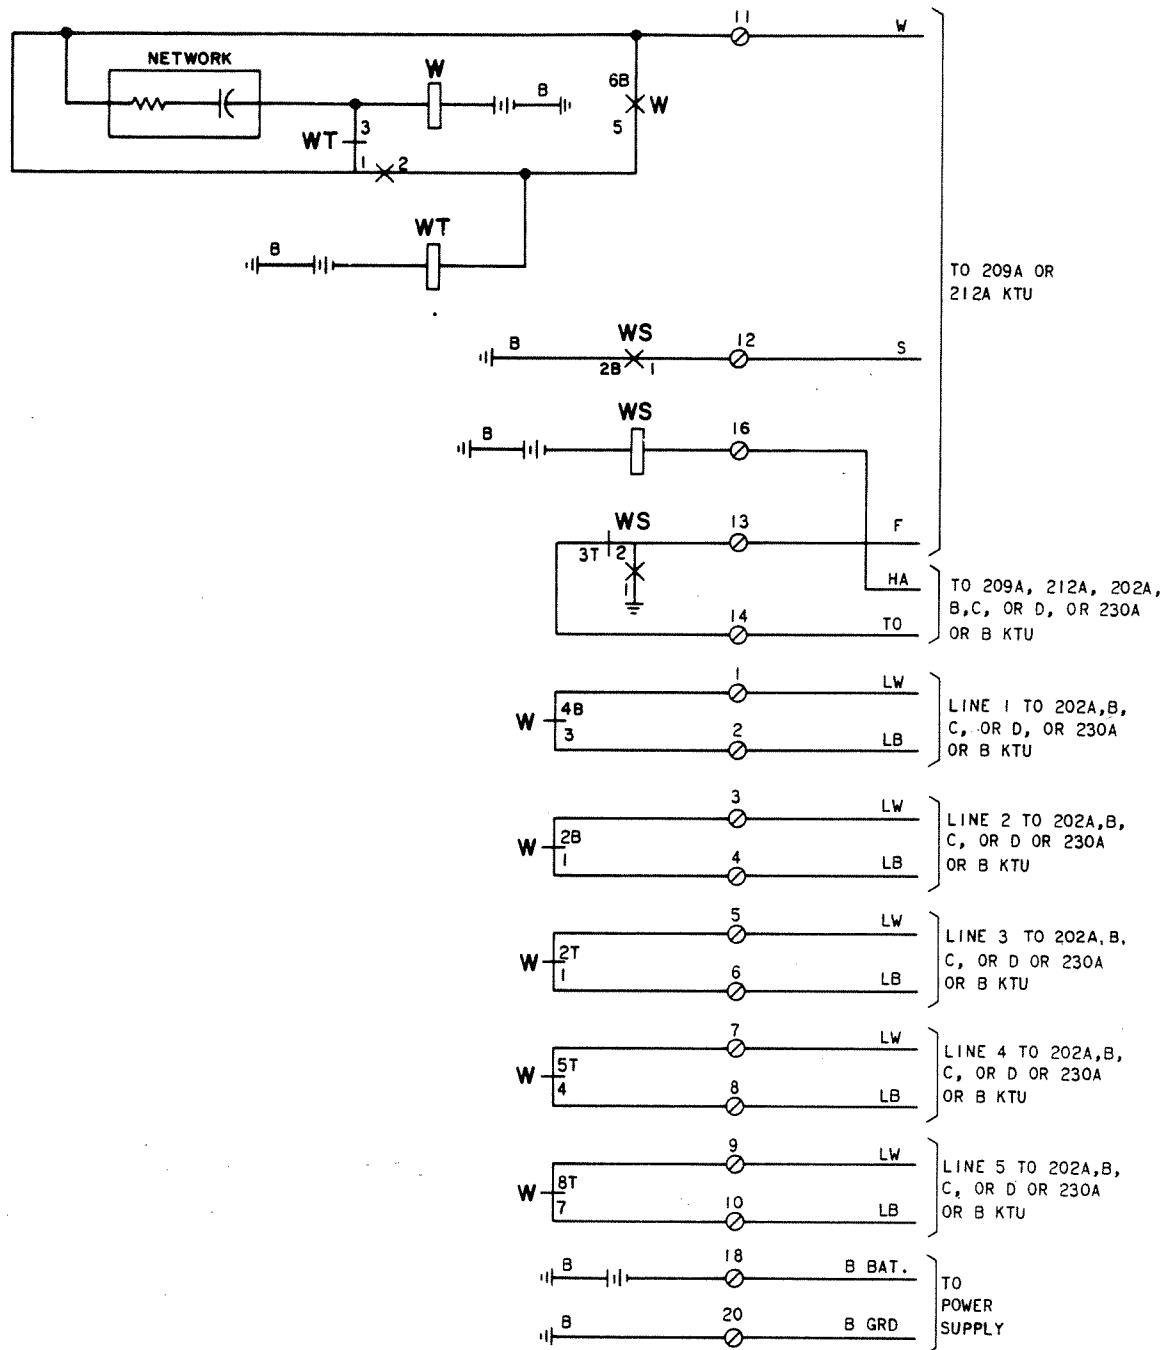

Fig. 11—Functional Schematic of 210A KTU (Wink Circuit)
2.14 The 210A KTU (Fig. 11) is used on CO or PBX lines to provide the interruption interval for the wink option.